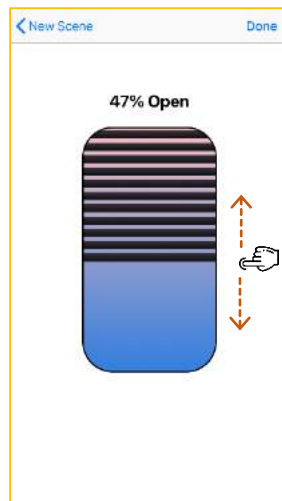

Figure 28
- ✔ **Roll Out** – roll the BLINDS up/down to desired height in the “virtual window”, where 100% is fully open and 0% is fully closed position (available only if **MAX. Efficiency** is disabled) (Fig. 28).